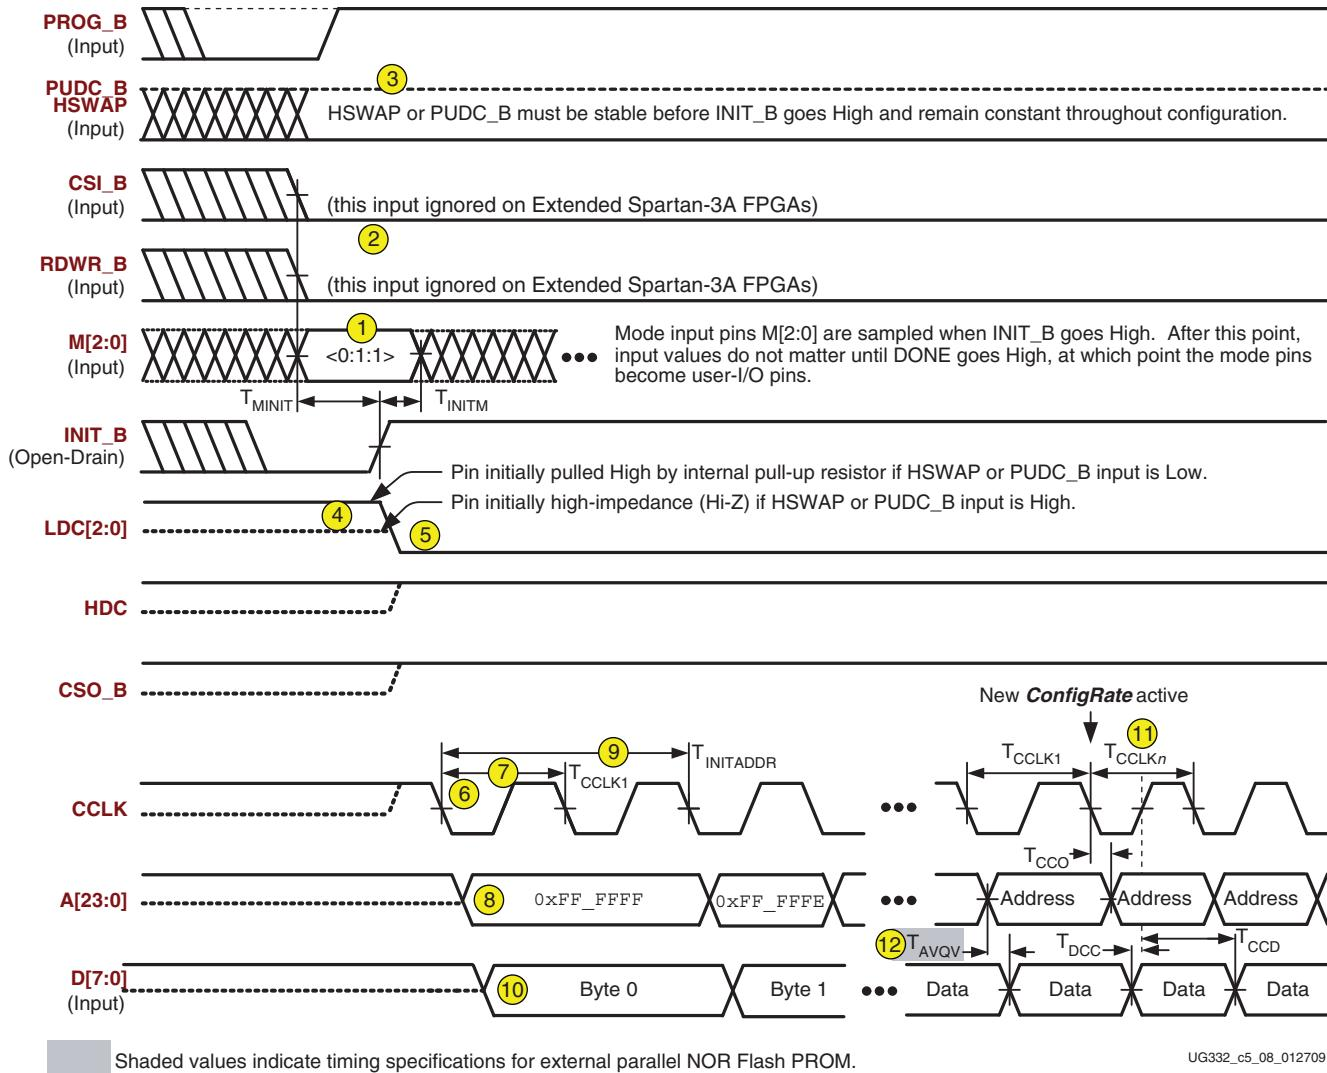

Figure 5-14: BPI Configuration Timing Waveform (Spartan-3E BPI Down mode shown)
Figure 5-14 provides a detailed timing diagram for the BPI configuration mode. The specific diagram is for the Spartan-3E FPGA family, using the BPI Down mode. However, the timing is also similar for the Extended Spartan-3A family FPGA families and for the BPI Up mode.
The following numbered items correspond to the markers provided in Figure 5-14.
3. The **HWSAP** or **PUDC\_B** pull-up resistor control input must be setup and valid before the rising edge of **INIT\_B**. Similarly, the example in Figure 5-14 shows the pull-up resistors enabled.